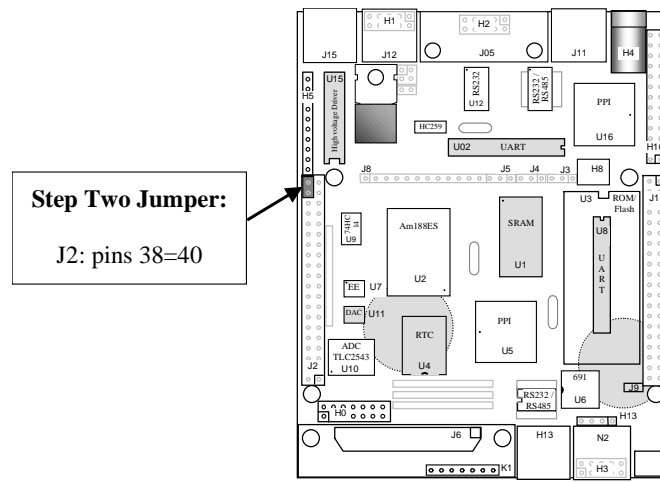

Figure 1.4 Location of Step Two jumper on the BirdBox-A
- Set the jumper on J2 pins 38-40 on the BirdBox-A (Figure 1.4).